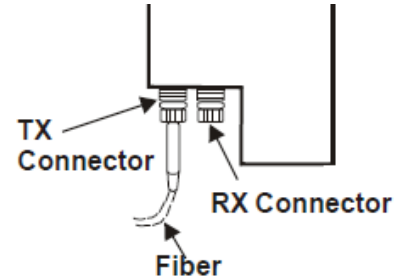

Fig 10: Fiber Connections
1.8.2 Connect incoming fibers (or fiber patch cords) to the TeleLite fiber module connectors per Figure 10.